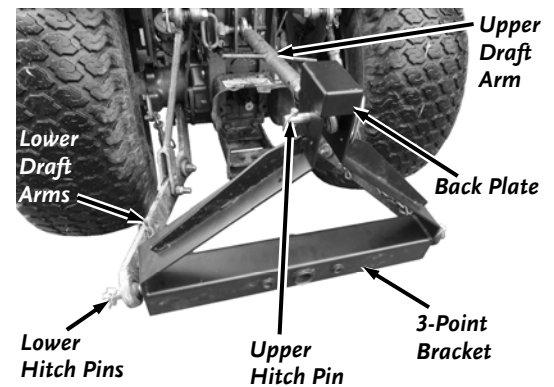

Figure 2
1. Position the 3-Point Bracket at the rear of the Tractor with the Back Plate facing away from the back of the Tractor (**Figure 2**). The opposite side of the 3-Point Bracket facing the Upper Draft Arm is open.